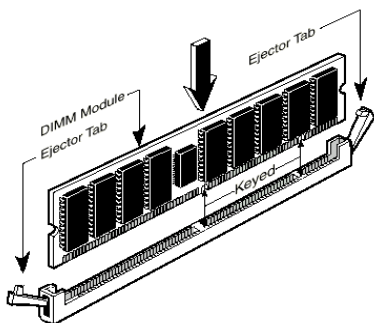

Figure 2-4. Memory module installation
Step 5. Insert the DIMM module into the expansion socket as shown in the illustration. Note how the module is keyed to the socket. You can refer to figure 2-4 for the details. ***This insures the DIMM module will be plugged into the socket in one way only.*** Firmly press the DIMM module into the DIMM socket, making certain the module is completely seated in the DIMM socket.